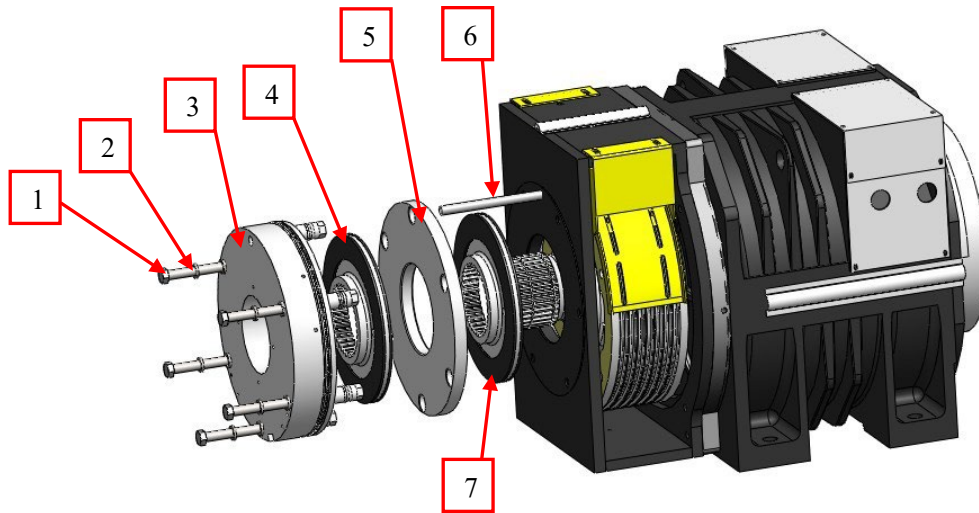

Figure 40 Reinstall Emergency Brake
4. Install the threaded rod M16x320 into the top-hole of brake frame as shown by item 6 in Figure 40 and Table 4.
Then install the other brake components. See Figure 40. Tighten bolts M16x165 and lock washer 16 (5 pieces) diagonally and evenly.